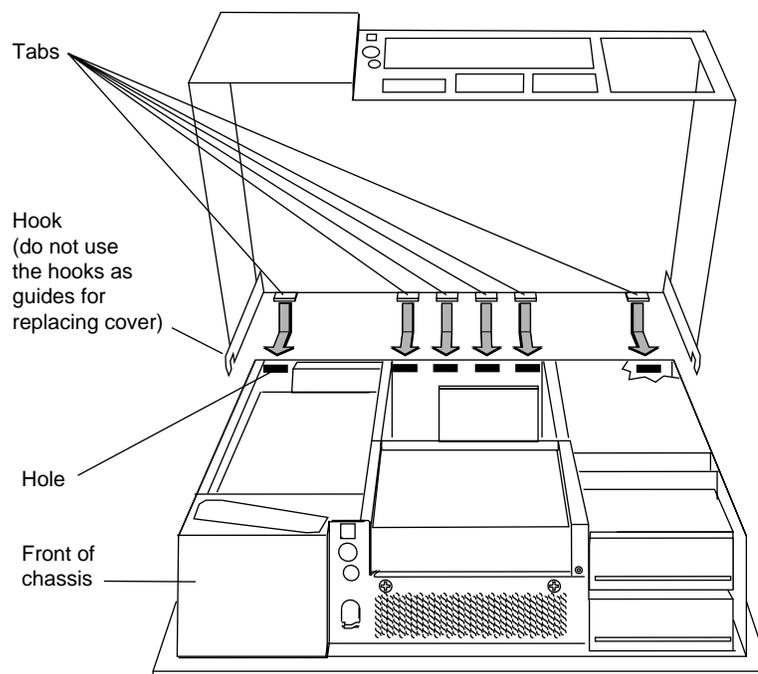

Figure 1-40 Replacing the Cover
- Locate the tabs on the inside and back of the top cover and the holes on the back of the workstation, as shown in Figure 1-40.